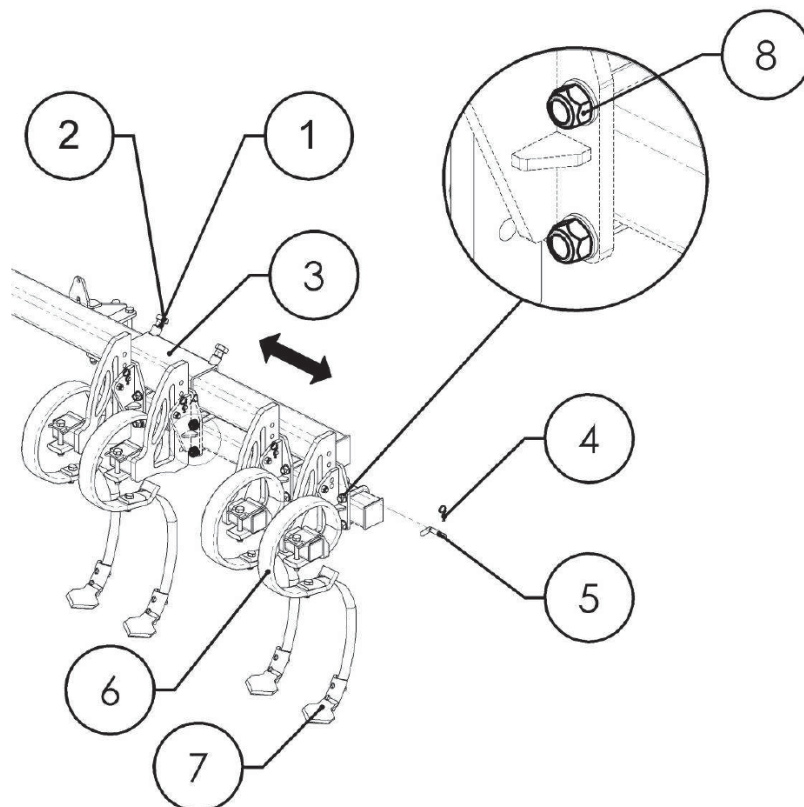

Fig. 22 Track eradicators
In order to change the cultivator span (Fig. 22):
In order to adjust the working depth of the cultivators (Fig. 22):
- turn of the screws fastening the points (Fig. 22)